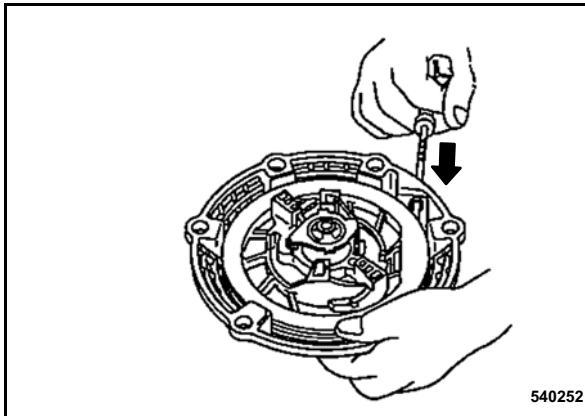

Fig. 66
- Release the coil again and guide the starter handle slowly back to initial position (Fig. 66).